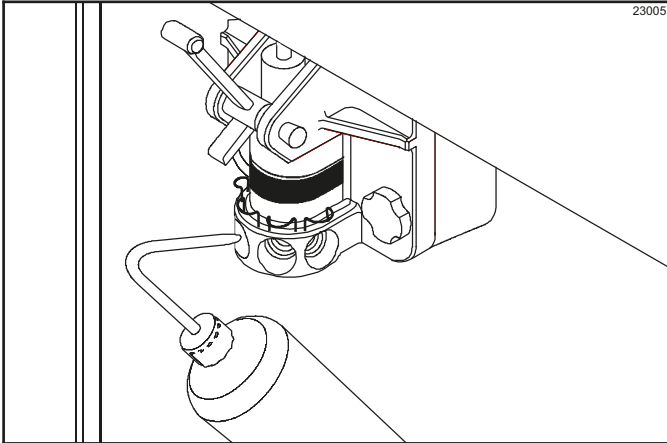

Figure 6-53
7. Fill the squeeze bottle with cleaning/sanitizing solution. With a pail beneath the door, insert the tube end of the squeeze bottle into the syrup port. Squeeze the bottle firmly. This will force solution out of the adjacent port and down around the spinner. This procedure should be performed for at least 10 seconds per port. (See Figure 6-53.)